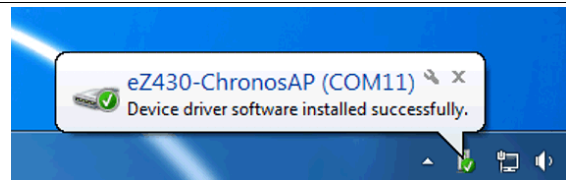

**Figure B-2. Successful Driver Installation for Access Point**
- The driver installation wizard shows if the driver is successfully installed (see Figure B-2)